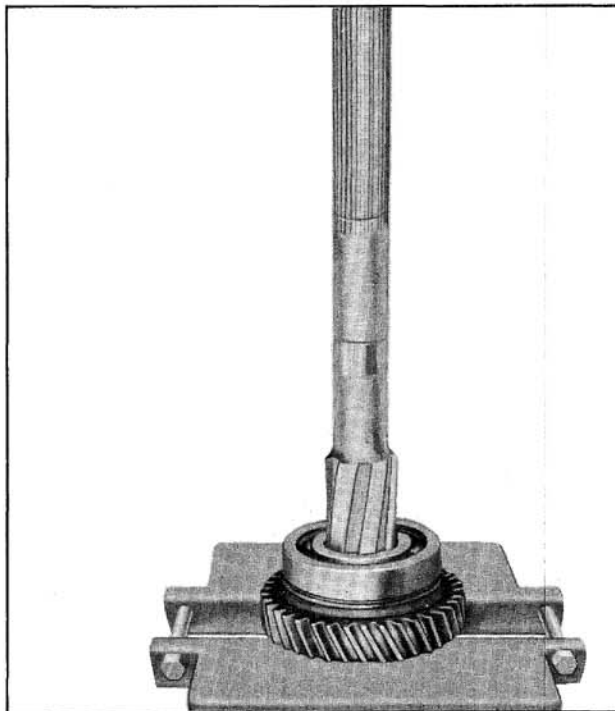

Fig. 7-65 Removing Mainshaft from Rear Bearing and First Speed Gear
17. Remove the mainshaft rear snap ring. Support first-speed gear as shown in Fig. 7-65 and press against rear of mainshaft to remove shaft from rear bearing, first-speed